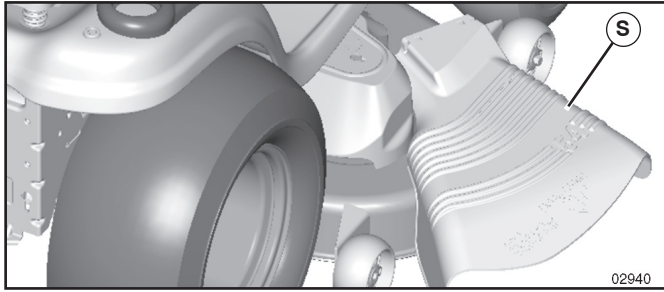

Fig. 23
CAUTION: Do not operate the mower without either the entire grass catcher, on mowers so equipped, or the deflector shield (S) in place. (fig. 23)